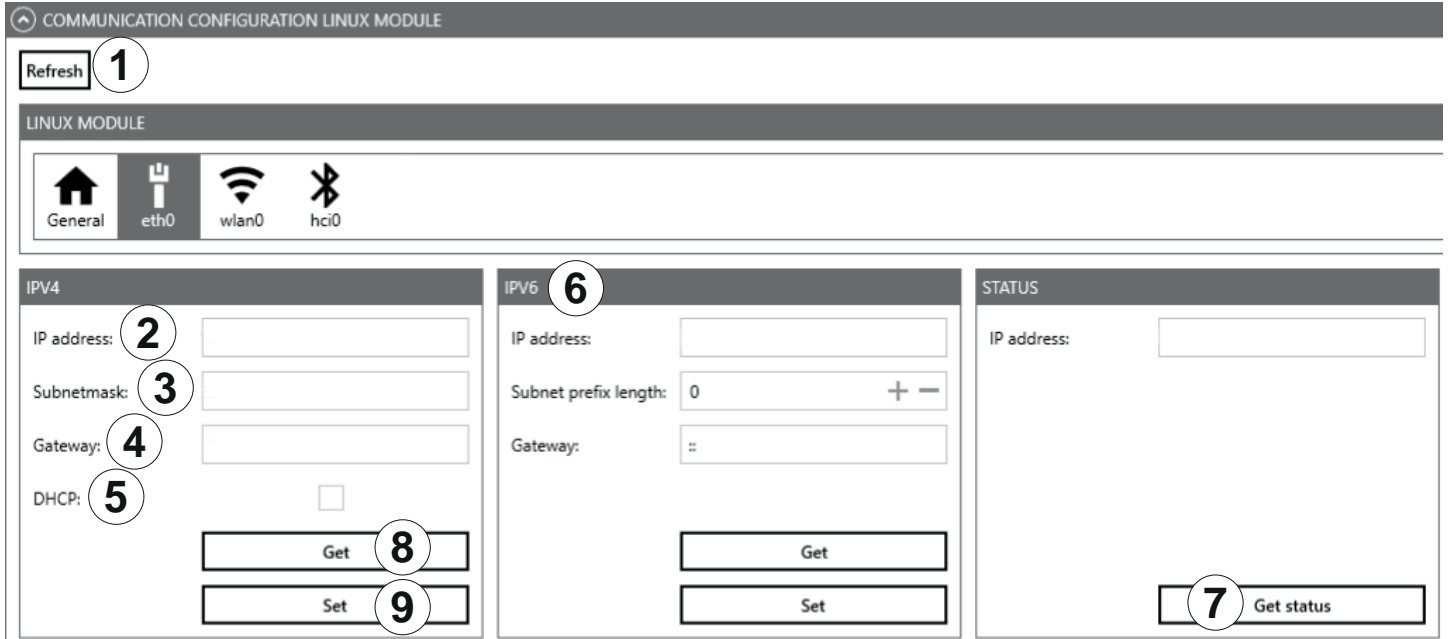

Fig. 50: Communication configuration Linux model: Ethernet
<p>changes setting of the selected application</p> <hr/> <p>① number of the expected tags</p> <hr/> <p>selects the antenna to be used</p> <p>② ► Check Ports 1-4 to select the antenna port. It is possible to select one, several or all ports.</p> <hr/> <p>③ selects the parameter set in which the configuration is saved</p> <hr/> <p>sets the values for max. reading speed or max. reading reliability</p> <p>► Click Optimised for reading speed or Optimised for reading reliability. ⇒ The values in Settings of selected application (③ in Fig. 50) change.</p> <p>When the max. read frequency is set (Optimised for reading speed is activated), the number of readings is maximised. In this case, the same tag can be read several times, because all tags will be reset in the inventory so that they will respond again. Because of reading the same tag multiple times, in a scenario of moving tags it could happen that not all the tags crossing the antenna field are read. The frequency of detection of the same tag is increased. In some cases, the time allowed for detecting the tags may be insufficient, so that some transponders are not detected.</p> <p>When the max. read reliability is set (Optimised for reading reliability is activated), tags that have already been read are not read again in the next inventory, provided they are still being supplied with power. This means that only the tags which have not yet been registered are detected. This way, the probability that all tags are read is increased.</p> <hr/> <p>saves the settings that have been made as the settings for the selected application in the selected parameter set. The programme resets the settings to the factory settings first, thus overwriting the previous configuration.</p> <p>If the settings have been reset, the Apply settings button briefly glows green and a success message is displayed in the Status field of the programme interface.</p> <p>④ If case of a fault, the Apply settings button briefly glows orange to indicate a warning or red to indicate an error. If the fault has been caused by a missing entry, the field lacking the entry also glows red. A warning/error description is displayed in the Status field.</p> <p>After the settings have been loaded, it is possible to go to the Basic reading tab and to start the read process.</p>
②	Settings
③	Settings of selected application	shows the settings that have been made for the selected application in the selected parameter set
④	Properties of selected application	shows the properties of the selected application